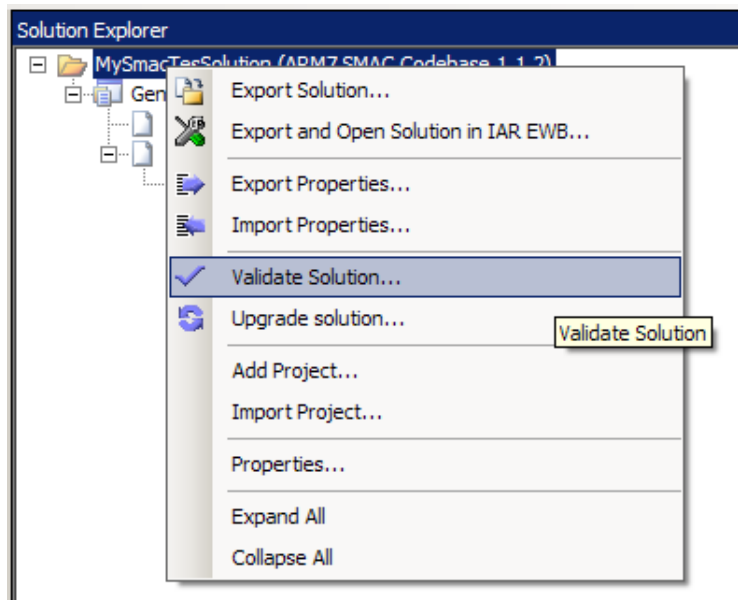

Figure 1-5. Validating a Solution
6. Users must now validate the solution as shown in Figure 1-5. The validation process helps users find possible inconsistencies between the selected hardware and properties.